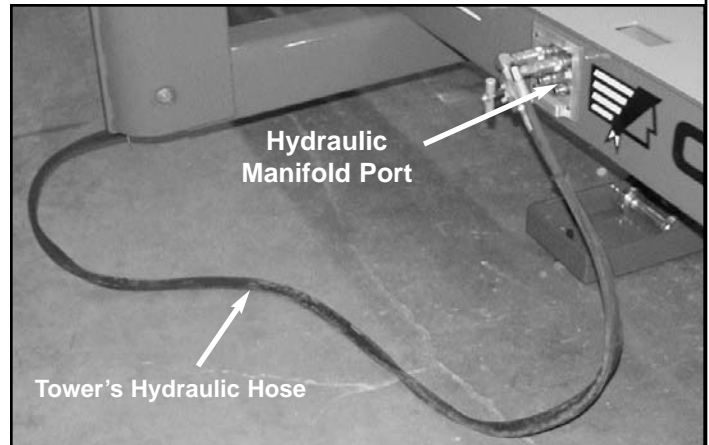

Figure 21
9. Connect tower's hydraulic hose to the nearest hydraulic manifold port. (See Figure 21.) Connect the valve connection to an "A" port and connect the non-valve connection to a "B" port. (See Figures 22 and 23). Then Open the tower valve. (See Figure 24.) Press "up" button on the remote control to operate and press the "down" button to release pressure.